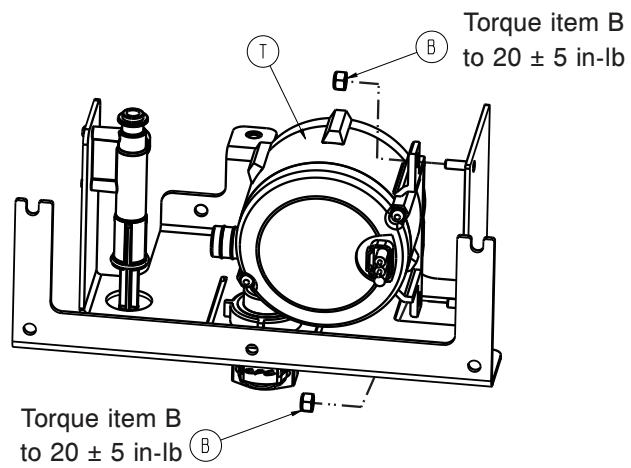

Figure 20: Screws that secure the fluid pump to the fluid bracket
9. Using a 3/8" combination wrench, remove and save the two nuts (B) that secure the fluid pump to the fluid bracket (Figure 20 on page 31).